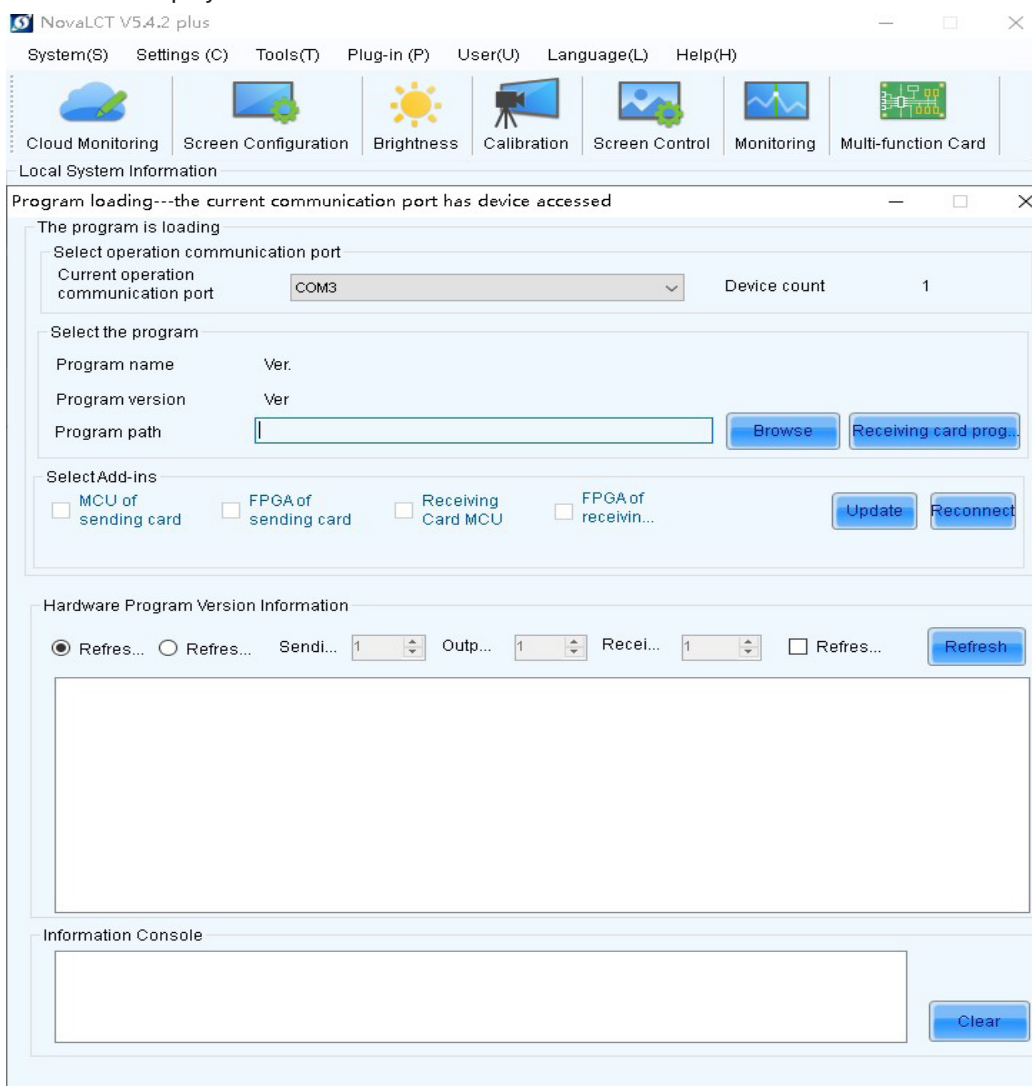

Figure 1-4
4. A dialog box will then appear as shown in Figure 1-4. Select the **Communication port** for operation. Click **Reconnect** if you need to reconnect the LED display controller.